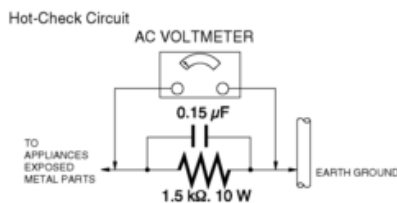

Figure. 1
## 1.3 Leakage Current Hot Check (See Figure. 1)
- Connect a 1.5 k $\Omega$ , 10 W resistor, in parallel with a 0.15  $\mu$ F capacitor, between each exposed metallic part on the set and a good earth ground, as shown in Figure. 1.